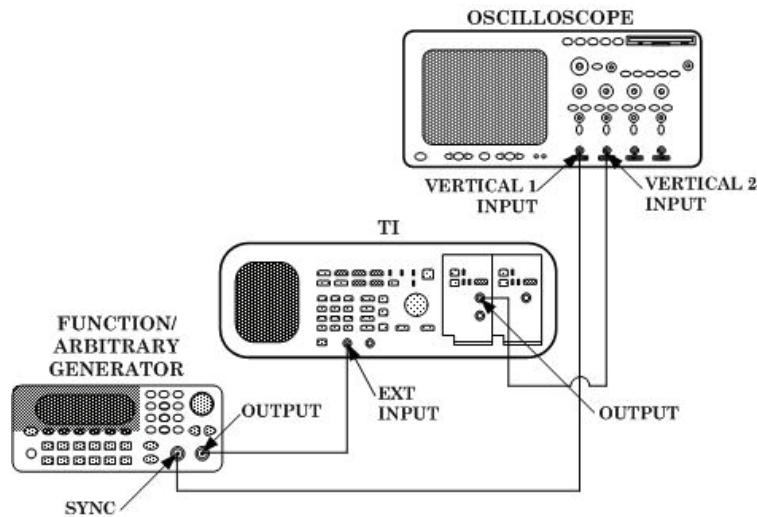

Figure 4. Trigger level and polarity.
- (1) Connect equipment as shown in figure 4 below.
- (1) Connect equipment as shown in figure 4.
- (2) Press TI pushbuttons as listed in (a) through (m) below: